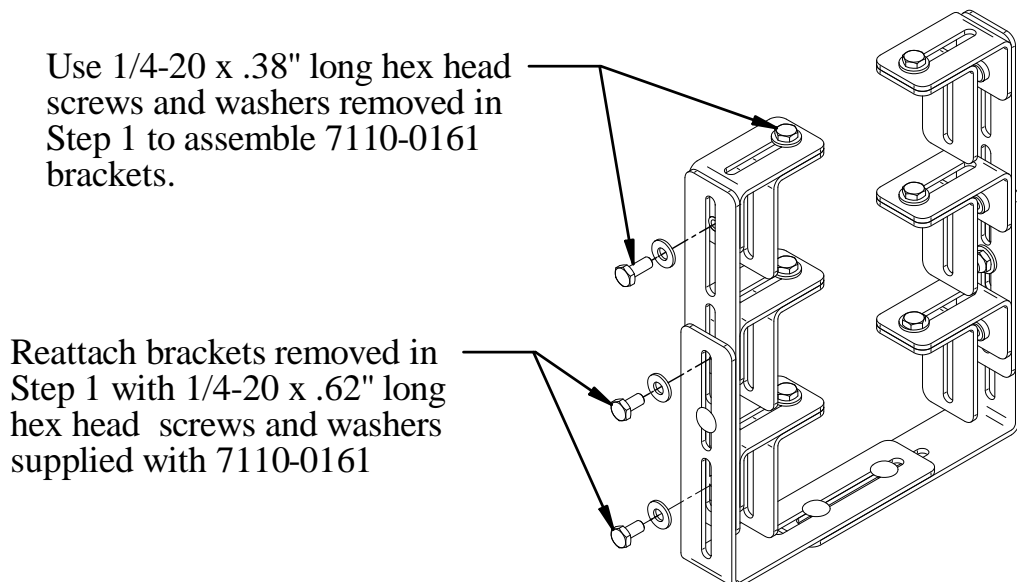

Figure 3
Step 3. Reinstall the equipment brackets as shown in Figure 3 using the hardware removed in Step 1 from the Stackmaster, StackAbout, FloorMaster, or FlexMaster products and the 7110-0161 Add On Bracket Set. If the carriage bolts holding the vertical extension plates are in the way, move these bolts up or down as needed and retighten. (Each extension will now be supported by a carriage bolt and at least one other bolt.)